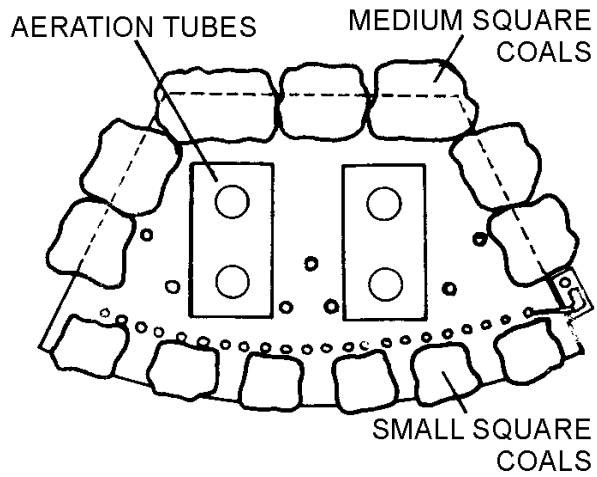
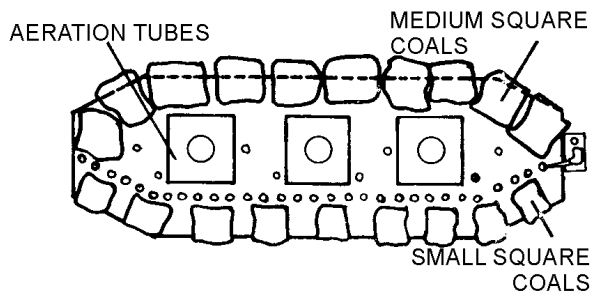
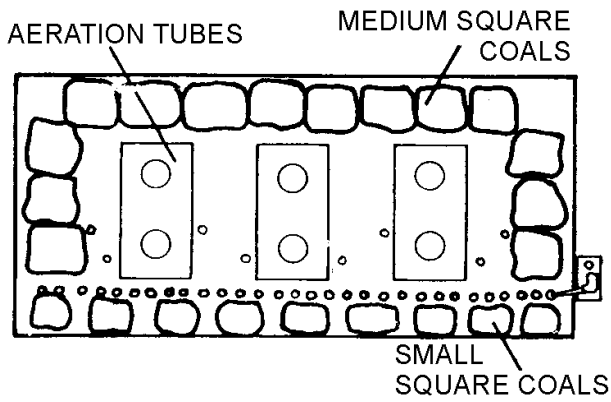

Figure 14 - Bowed Tray - Coals Layer 1
Figure 16 - Oval Tray - Coals Layer 1
Figure 18 - Rectangular Tray - Coals Layer 1
1. With reference to **Figure 14**, **Figure 16** or **Figure 18** unpack the **small square coals** and place them along/around the burner tray leaving equal spaces between them, taking care not to cover any gas ports.